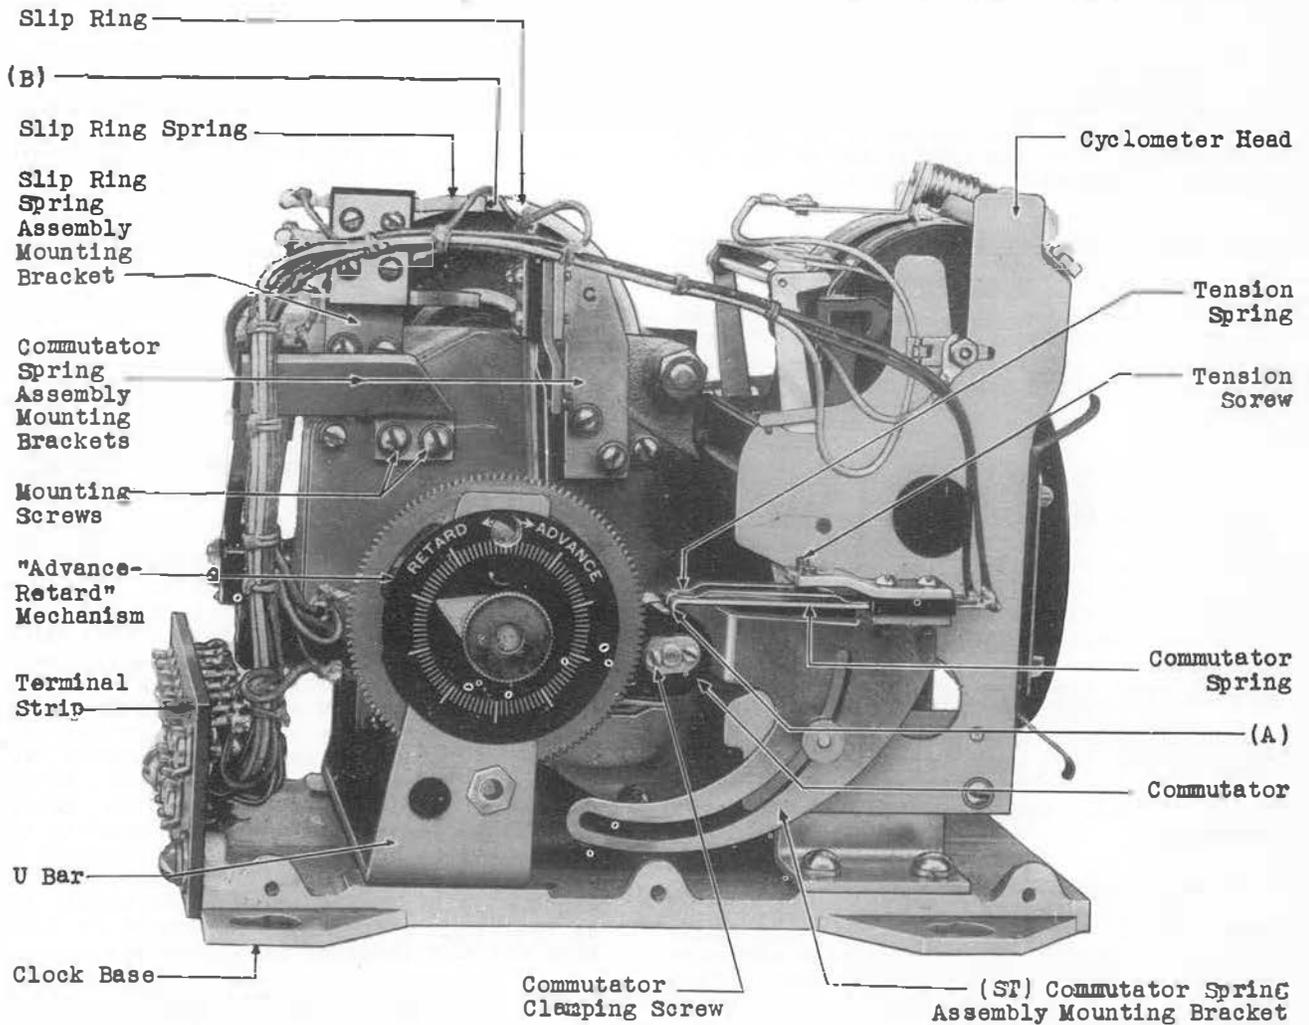

Fig. 4 - Illustrating Mounting Bracket Arrangements For Commutator Spring Assemblies
2.10 Commutator Spring Pressure-Fig. 4 (A)
2.11 Slip Ring Spring Pressure - Fig. 4 (B):